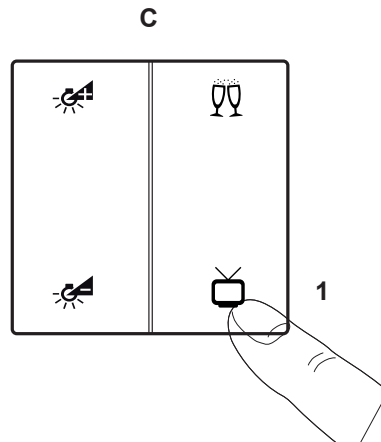

Figure 28: Saving new scene parameters
- Hold the button for "Scene TV" for longer than 5 s (Figure 28, C-1)